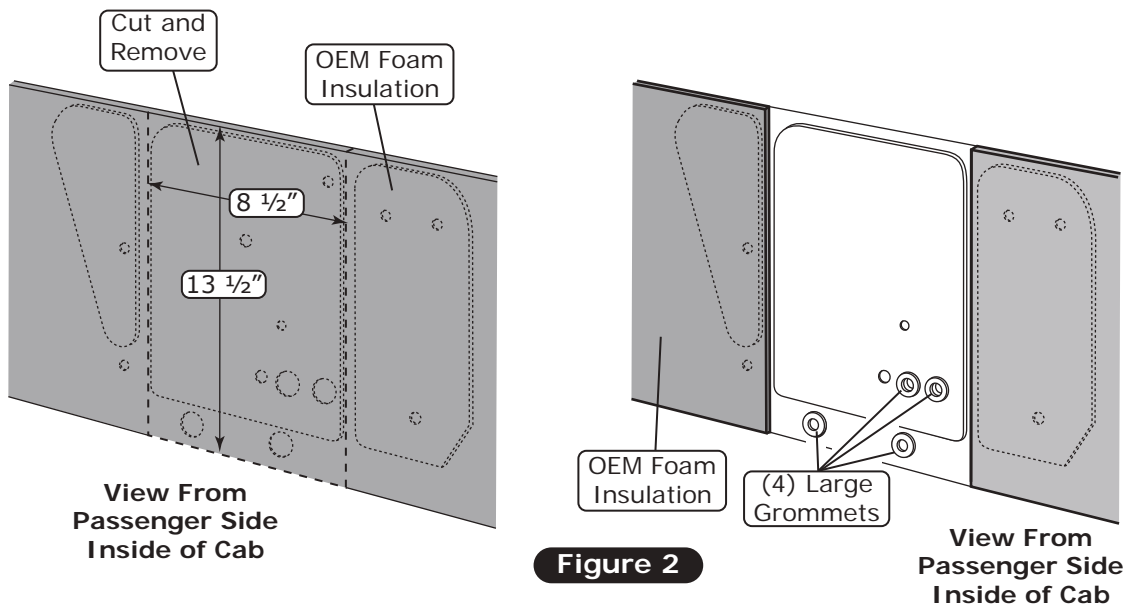

Figure 2
4. Install (4) large grommets as shown in Figure 2, below.